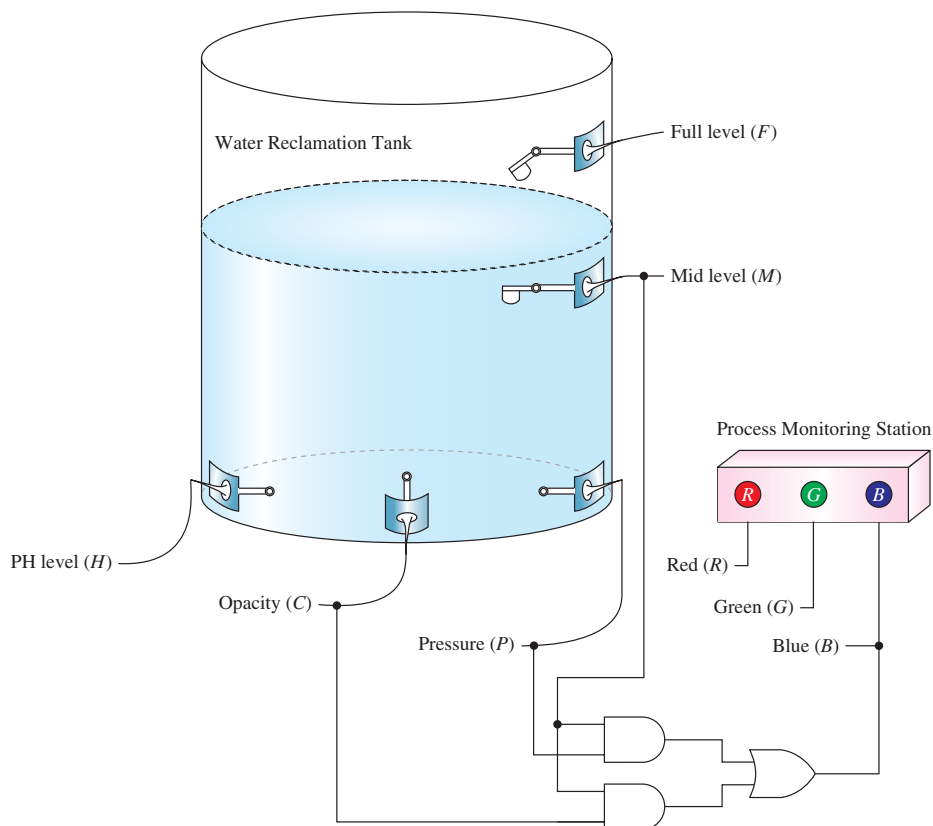

Figure 5-7 Gray water reclamation tank with input sensors and a process monitoring station.
Figure 5-7 shows a gray water reclamation tank having five inputs and three outputs. The inputs are used to monitor HIGH/LOW levels on the quantities shown, and the outputs are used to illuminate the color lights in the Process Monitoring Station. The system is designed to capture gray water before it goes into a septic system. Gray water is the water drained in the bathroom sink or shower and water drained in a washing machine. This recycled water can then be used in the toilet or for landscape irrigation. In this example, logic gates are connected to the figure to turn on the blue light (B) if the water is at the mid level (M) and there is a HIGH pressure (P) or if the water is at the mid level (M) and there is a HIGH opacity (c). (Opacity is a measure of water clarity.)
- Write the Boolean equation for the new logic that would turn on the red light (R) if the PH level (H) or the Opacity (C) or the Pressure (P) are HIGH while the water is at the mid level (M). (The word *while* indicates an AND function).
- Write the Boolean equation for the new logic that would turn on the green light (G) if the PH level (H) or the Pressure (P) are HIGH while the water is at the mid level (M) or the full level (F).
- Write the Boolean equation for the new logic that would turn on the blue light (B) if the Opacity (C) and the pressure (P) are HIGH while the water is at the mid level (M) or the full level (F).